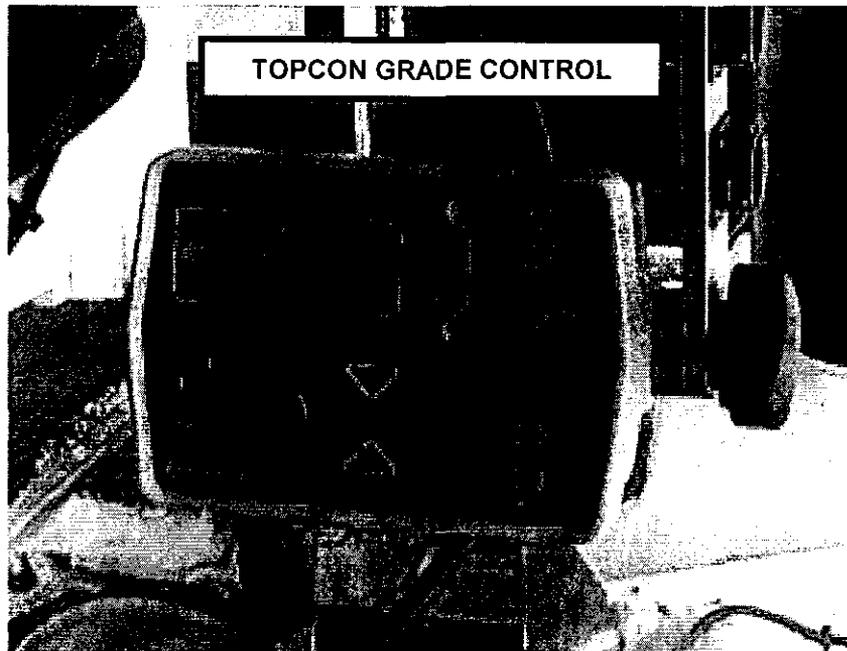

FIGURE 17
3. Whether the machine is equipped with automatic grade controls (figures 17 & 18) or if it uses grade jacks, now is the time to zero out the grade reference point. Refer to the automatic grade control's operation manual to learn how to zero out the reference point for that particular system.